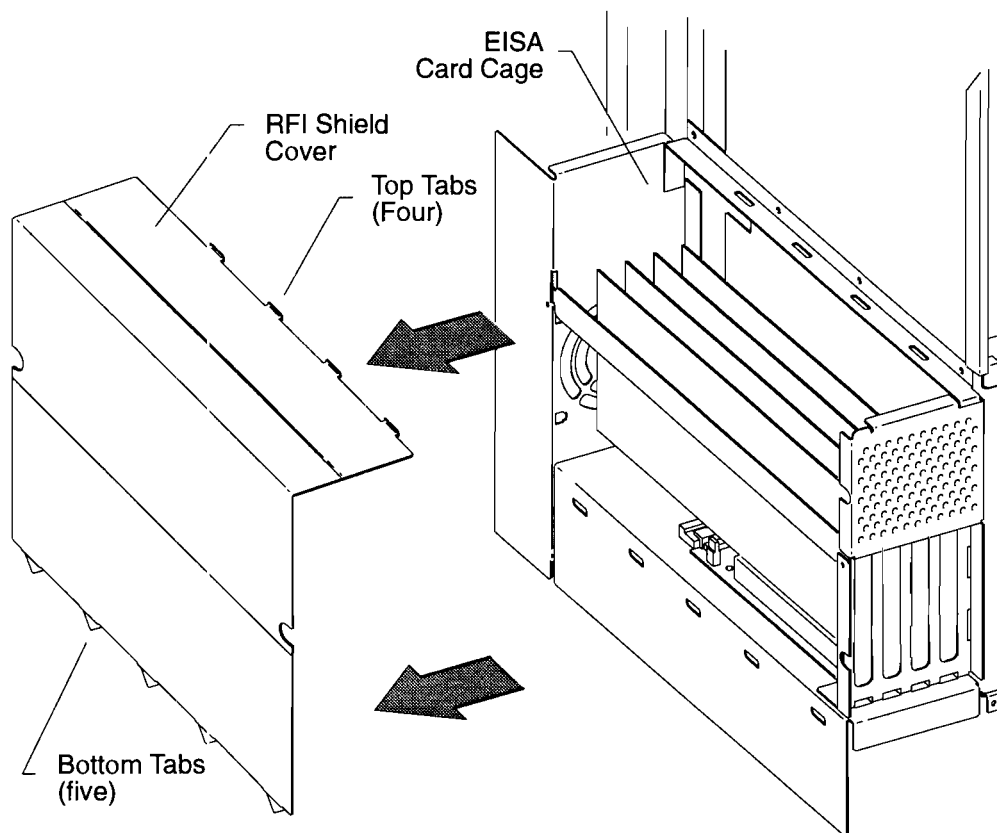

Figure B-12. Removing the RFI Shield Cover
6. Remove the RFI shield cover by pressing down on the four tabs that fit into the center wall at the top edge of the shield and pulling the cover out, as shown in Figure B-12.